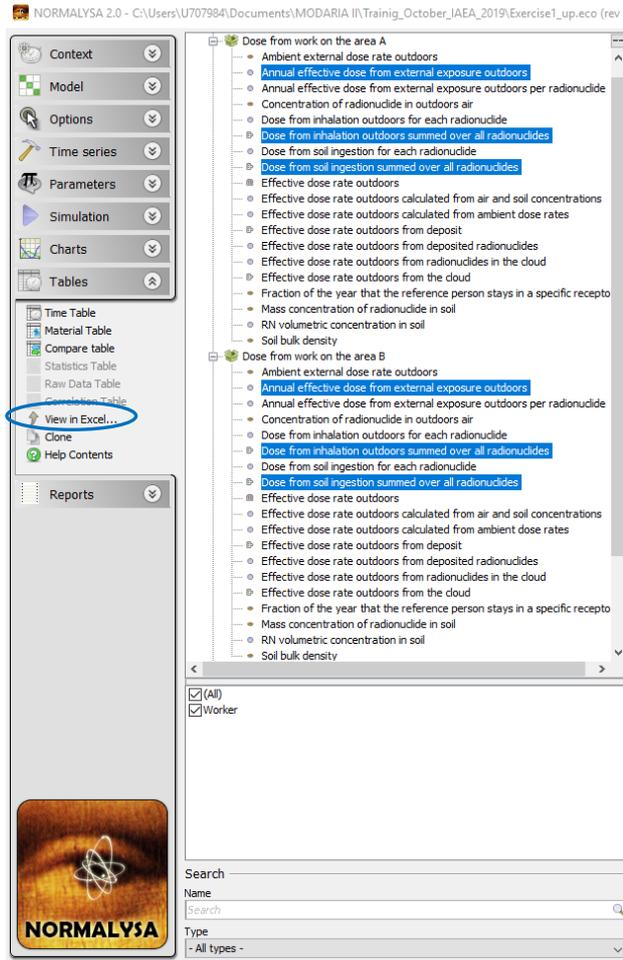

FIG 23. Selecting the needed intermediate dose calculations results for export to MS Excel to calculate “Dose per area” end-point.
1. Choose the listed above needed outputs for respective sub-systems from the tree with simulation results. Use ‘Ctrl’ button for multiple choices (FIG 23).